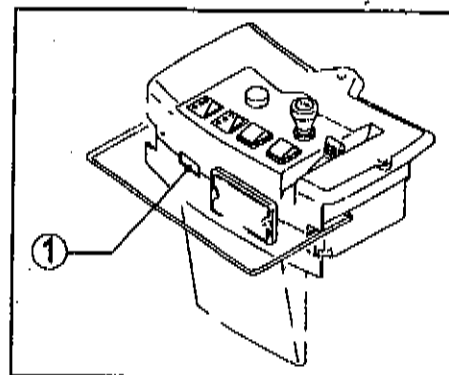

Fig. 4
**Hour counter:** the hour counter accessory is fixed to the control panel (fig. 4, ref. 1). It displays the number of brush operating hours.